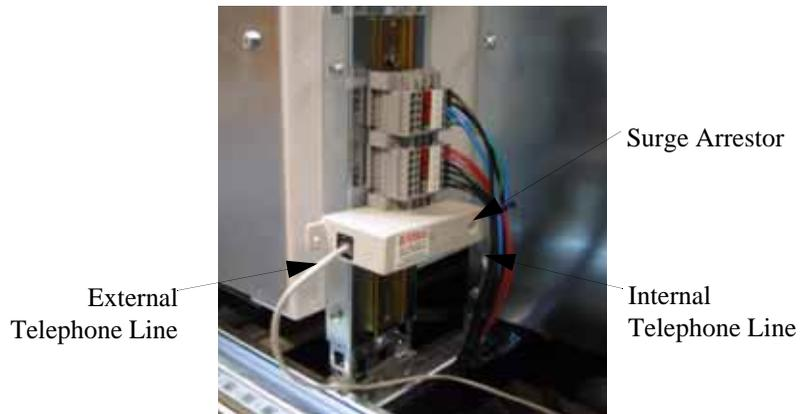

Figure 4 Telephone Cable Routing
1. Install the telephone surge arrester onto the operator interface panel, see Figure 4.
4. Connect the external telephone line cable to the unprotected input on the surge arrester, see Figure 4.